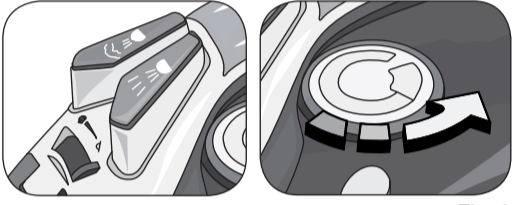
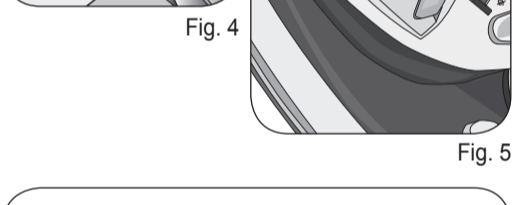

Fig. 2
Fig. 5
Set the steam control knob (C) onto "S" (Fig. 2). Open the door (B) by pushing it upwards and, holding the iron horizontally, fill the water tank up to the maximum level using the measuring cup (F) provided (Fig. 5).
Position the temperature adjustment knob (K) on position *** or higher. When the temperature control lamp (J) turns off, move the steam adjustment selector (C) to the desired position. You get maximum steam dispensing by moving the selector to the "S" position. Steam is not dispersed when it is moved to "S" (Fig. 2).
To prolong the life of your iron, we recommend that this procedure be carried out at regular intervals (once or twice a month). Fill the tank one-fourth full with water using the measuring cup (F) provided (Fig. 5). Set the iron on a stable surface in a vertical position on the iron stand (I). Plug it into the socket. Make sure the steam adjustment selector is set on "S".